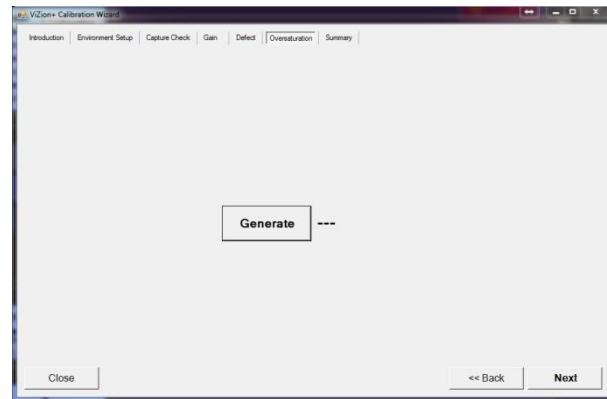

Figure 30: Oversaturation Tab
- OpalUAI v2.3.4.21: select Acquire button, Expose x-ray with the same level used to achieve the 9700-10300 target field in Gain Tab. Figure 30
- Figure 30